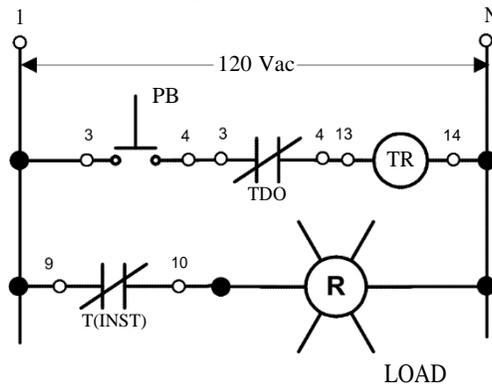

FIGURE 7.16
Step 8: a) Connect the circuit shown in Figure 7.16.